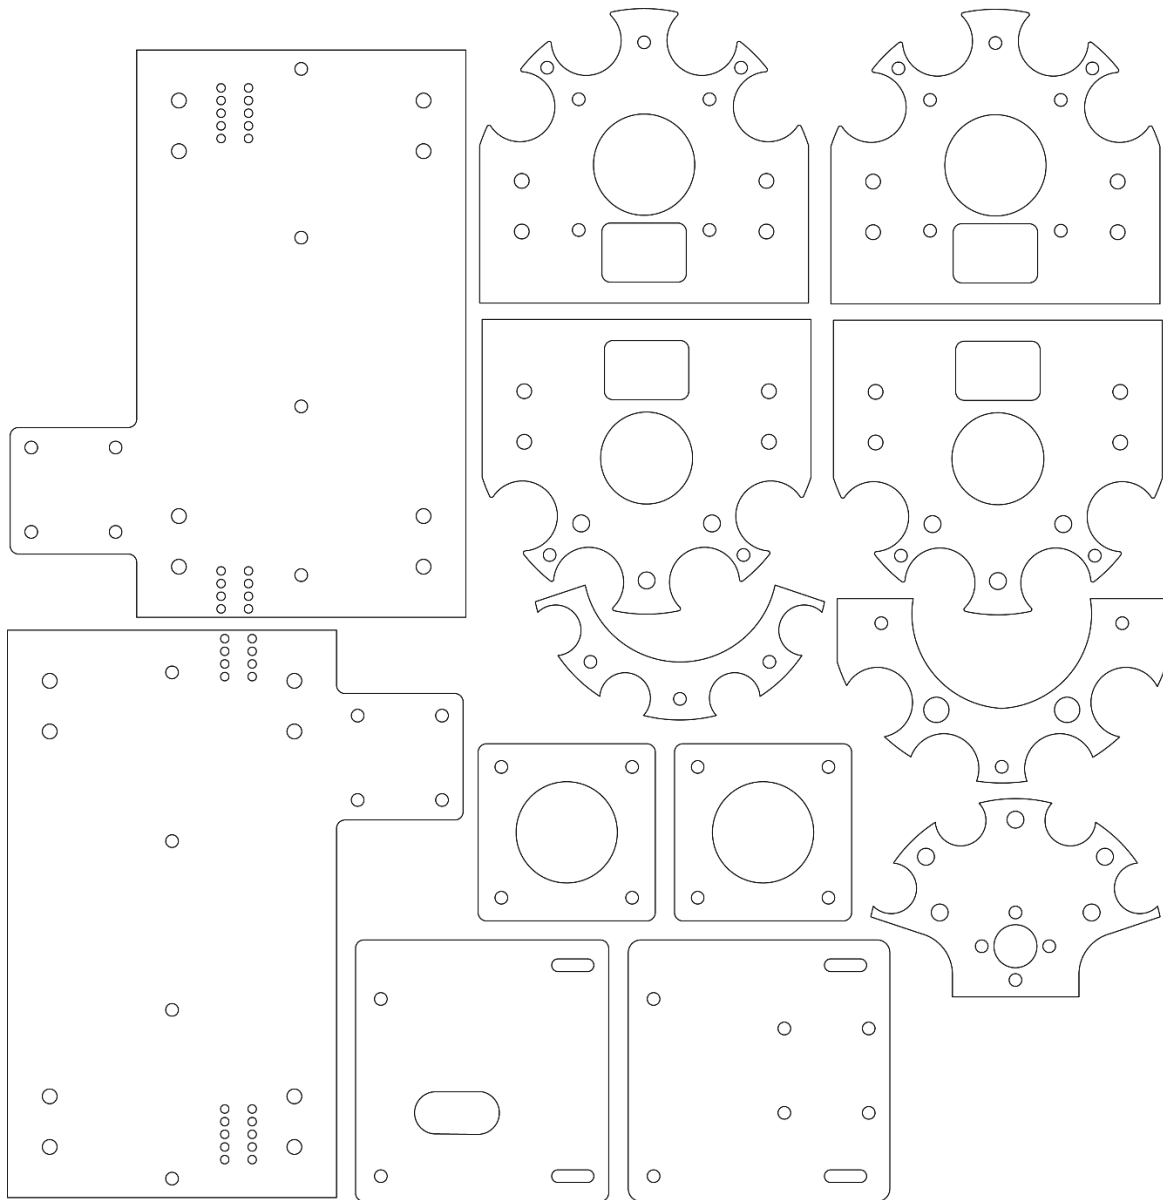

Figure 1: Parts to laser cut.
- 2- Laser cut the parts in the file [Manufacturing in 5 mm thickness Acrylic.ai](https://github.com/FrancisCrickInstitute/Four_channel_syringe_pump/tree/main/Manufacturing%20files/Mechanics/Adobe%20Illustrator) which can be found on: [https://github.com/FrancisCrickInstitute/Four\\_channel\\_syringe\\_pump/tree/main/Manufacturing%20files/Mechanics/Adobe%20Illustrator](https://github.com/FrancisCrickInstitute/Four_channel_syringe_pump/tree/main/Manufacturing%20files/Mechanics/Adobe%20Illustrator) (Figure 1).